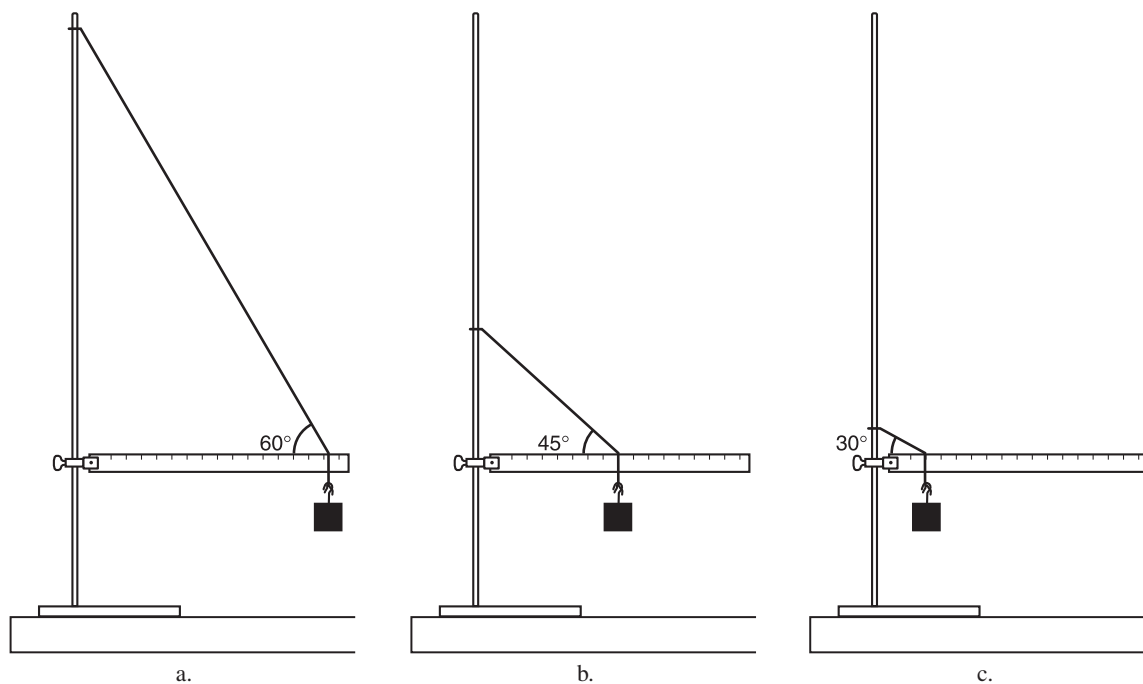

Figure 8.
- Which boom in Figure 8 would produce the most tension in the string? Why? Assume the mass in each figure is the same.